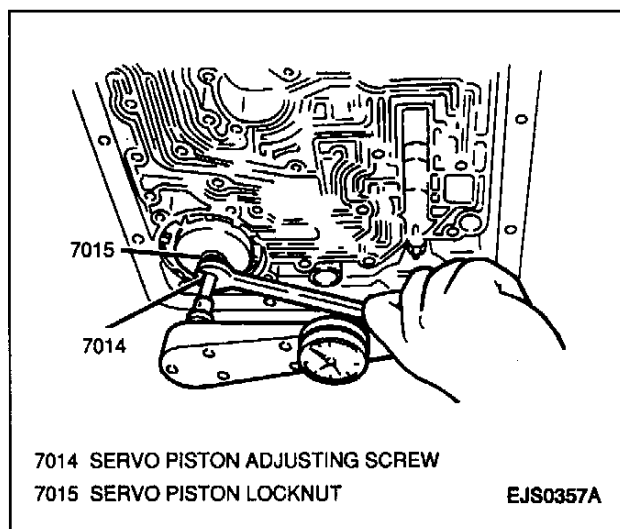

Figure 44—Adjusting Low Servo (3L30, 3-Speed)
- Low servo by holding the servo piston adjusting sleeve with a standard open end wrench (Figure 44).
- B. Tighten the servo piston adjusting screw to 24 N·m (18 lb. ft.) using a torque wrench with a 5 mm (3/16-inch) hex head socket making sure the locknut remains loose (Figure 44).